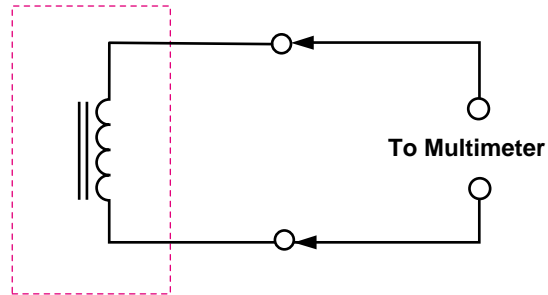

Figure 9
- ❑ 2. Measure the resistance of the inductor to the nearest ohm. See Figure 9. Record this value as DC resistance of inductor under Observations in Data Table 1 of your Student Journal.